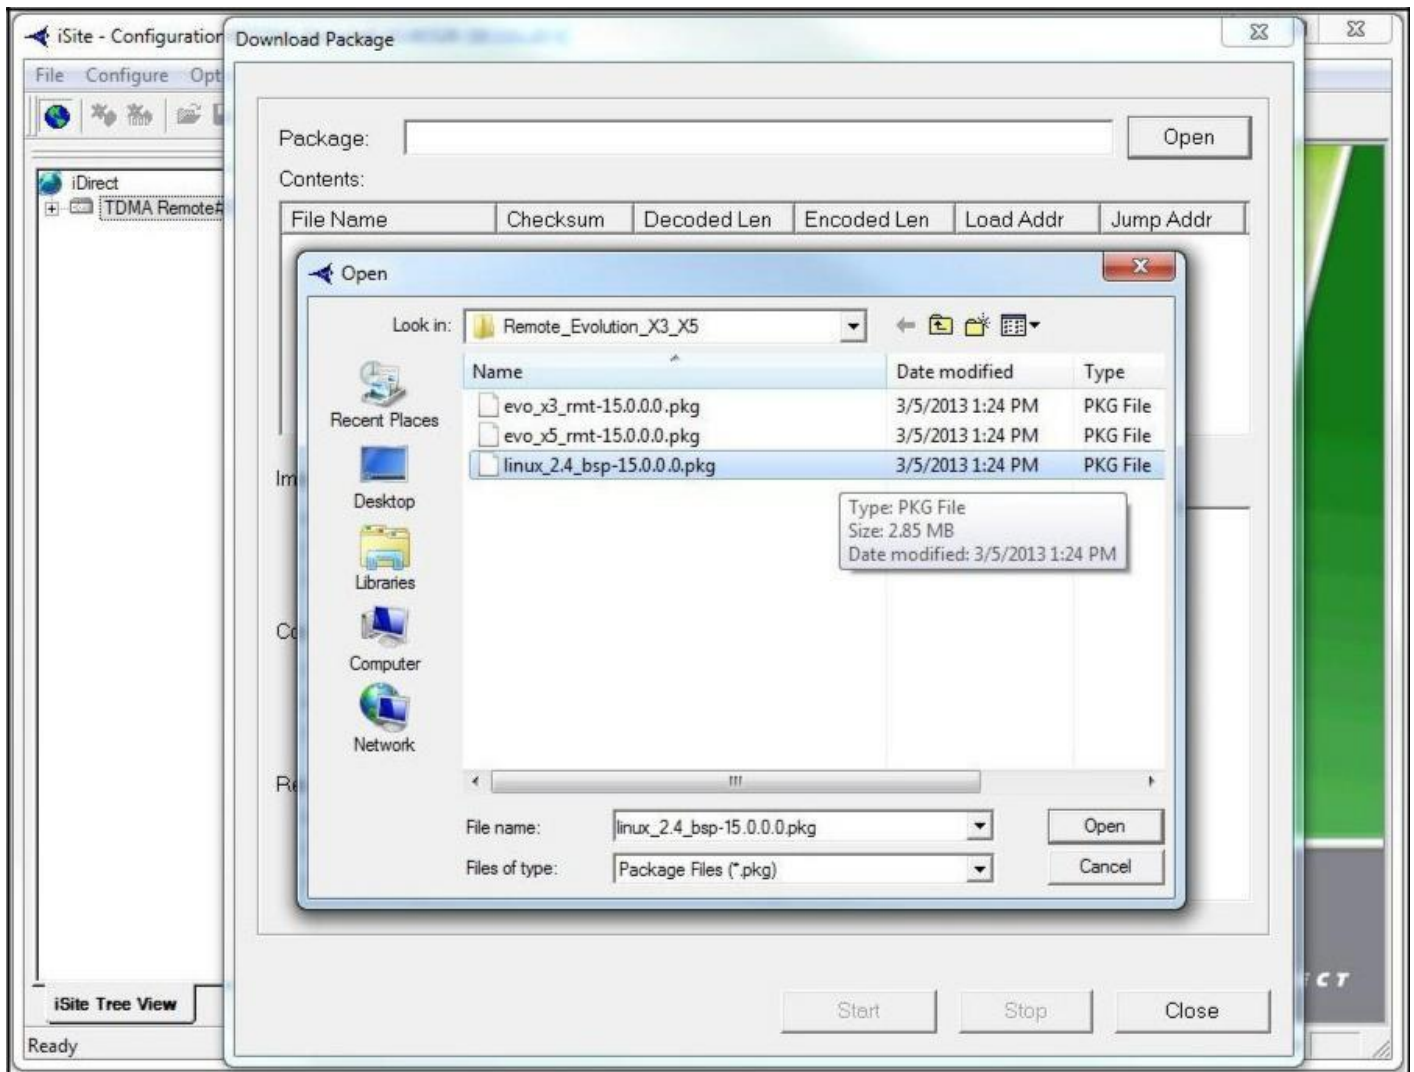

Figure 14. Selecting the BSP File
4. In the **Open** dialog box, open the folder with the applicable Satellite Router model number in the folder name. Figure 14 illustrates an example when commissioning the X3.